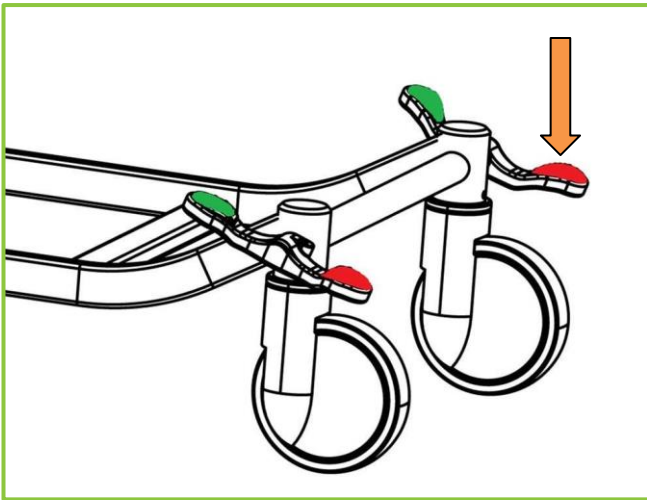

Figure 31 – Brake locked
1. To lock the central brake, press the rear red part of the foot lever down until the brake locks. Figure 31 shows the brake locked.